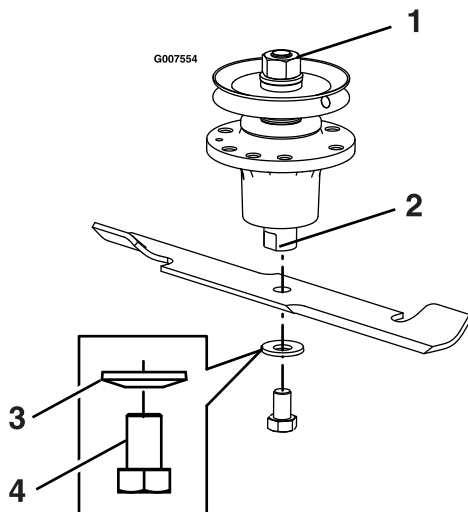

Figure 8
4. Install blade bolt and spring disc washer. Be sure the spring disc washer cone is installed towards the bolt head. Place a block of wood between front or rear baffles and the blade then torque the blade bolts to 115–120 ft-lb (156–163 N-m) (Figure 8).